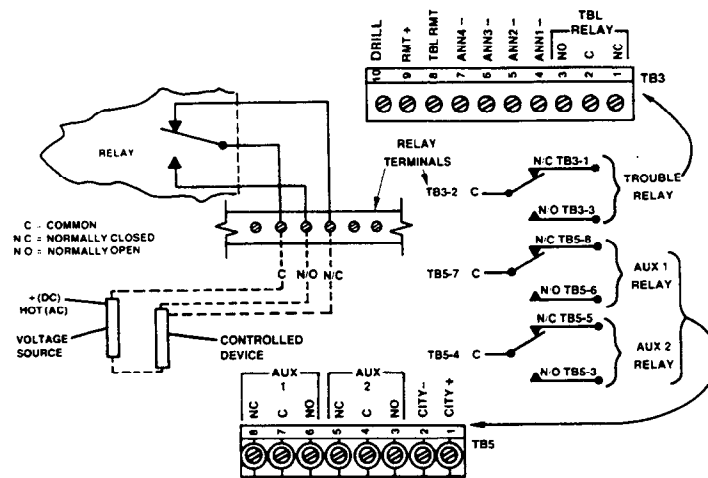

FIGURE 20
9. If remote trouble devices are used, connect them to trouble relay as follows (Refer to Fig. 20):
10. If remotely controlled devices are used, connect them to auxiliary master alarm relay as follows (refer to Fig. 20):